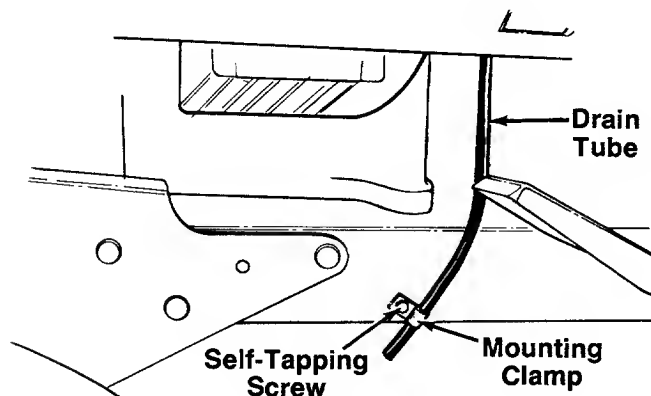

FIGURE 8.
7. Route the battery drain tube over to the left side of the tractor. Slip the end of the drain tube into the mounting clamp provided in hardware pack. Secure the mounting clamp to the tractor frame using the self-tapping screw as shown in figure 8.